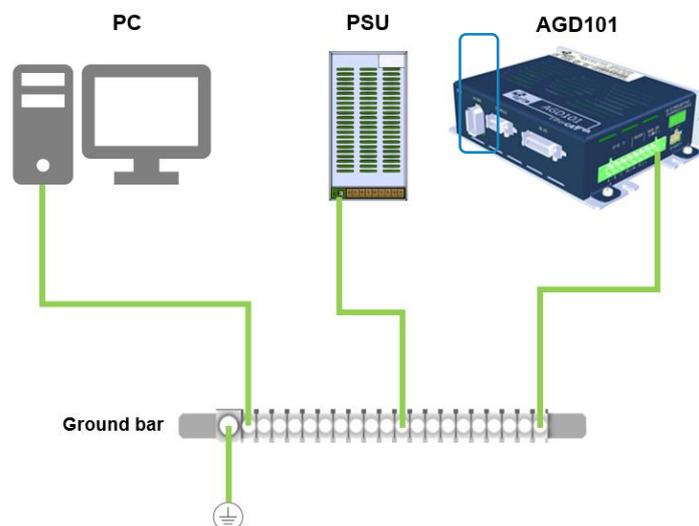

Figure 6. System Grounding
- The AGD101 must be connected to protective earth (PE) and connected to the building's ground. PE is protected with an earth-leakage circuit breaker (ELCB); hence it is safe to touch. Refer to Figure 6.